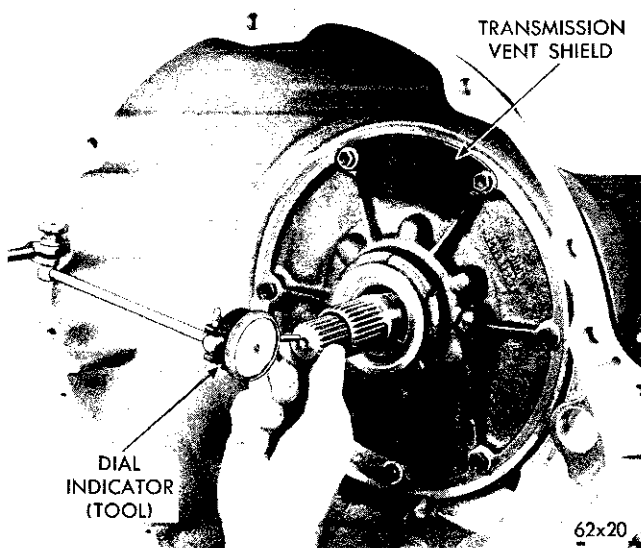

Fig. 52—Measuring Drive Train End Play
(1) Attach a dial indicator to the transmission bell housing with its plunger seated against the end of input shaft (Fig. 52).
(3) Record the indicator reading for reference when reassembling the transmission. The end play specifications are: Chrysler .036 to .084 inch, Imperial .028 to .072 inch.